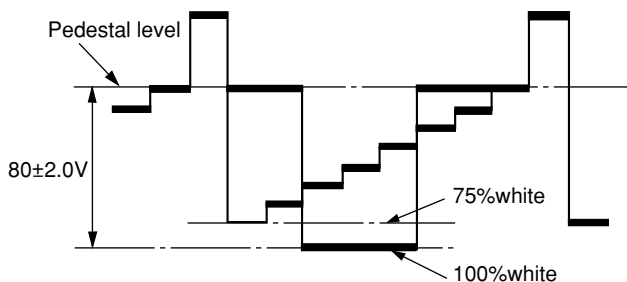

Fig. 3-2
2. Use the volume keys on the jig remote control to adjust so that the voltage to the pedestal level from 100% white is  $80 \pm 2.0$  V, referring to Fig. 3-2.